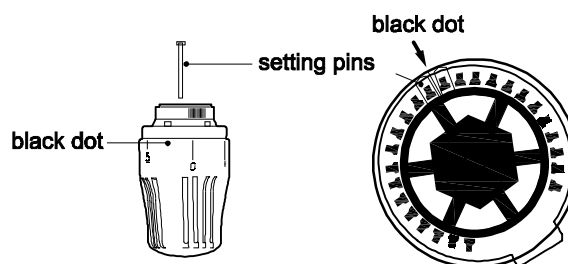

Fig.7
2. Locate the black dot - see Fig. 7 - and insert one pin on each side of the dot